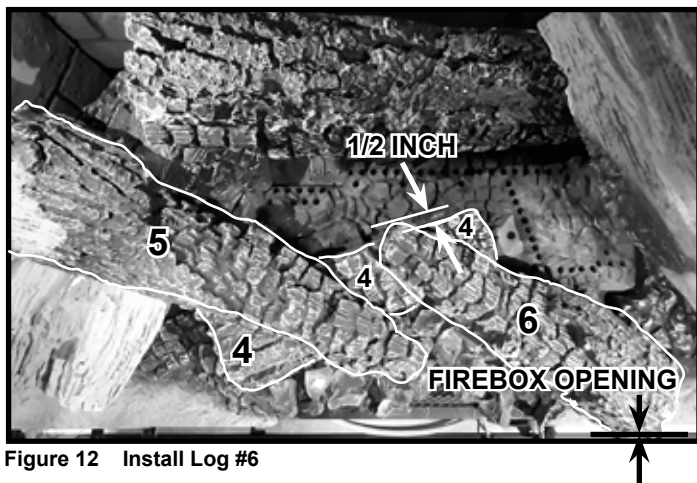

Figure 12 Install Log #6
**Log #6:** Position Log #6 on the flat area of Log #4, which is highlighted in Figure 7. The top left corner of Log #6 will overhang the side of Log #4 by 1/2 inch. The bottom corner of Log #6 will be flush with the front of the firebox opening as noted in Figure 12.